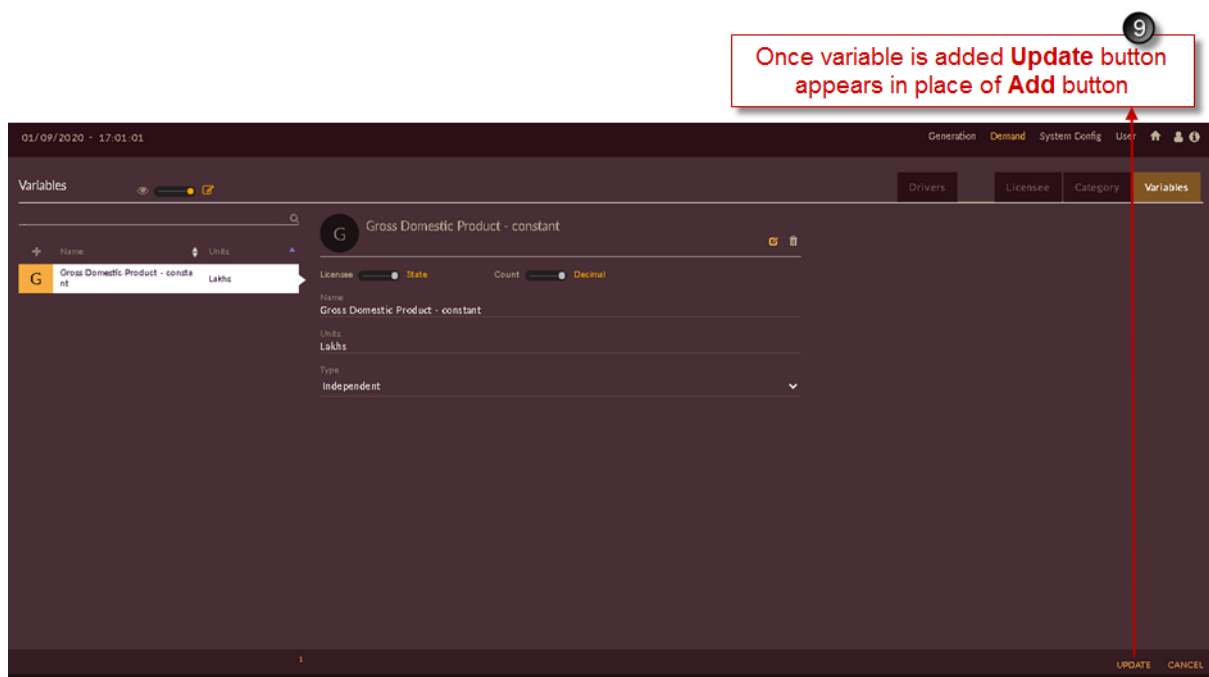

Figure 7. Updated Variable Page
9. You will see the successfully added variables list on left of screen. **ADD** **ADD** button is changed with **UPDATE** **UPDATE** button where you can click to update the changes made in variable data as shown in Figure 7.